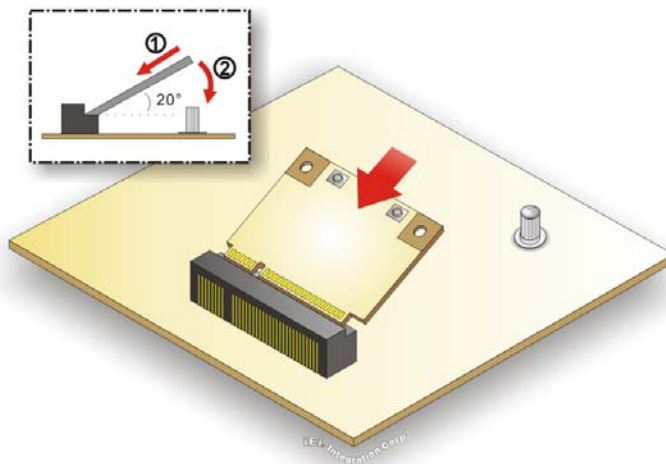

Figure 3-7: Inserting the WLAN Module
Step 5: **Insert into the socket at an angle.** Line up the notch on the WLAN module with the notch on the slot. Slide the WLAN module into the slot at an angle of about 20° (Figure 3-7).